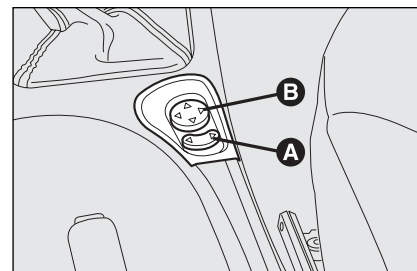

fig. 39
- ☐ use switch **A**-fig. 39 to select the mirror required (left or right);